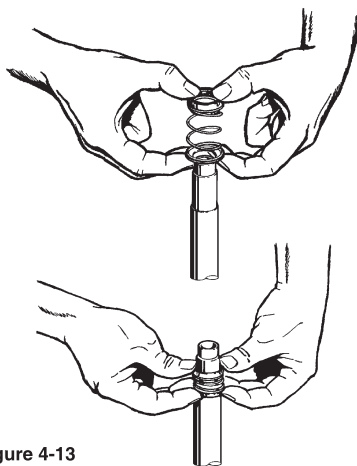

Figure 4-13
- b. Thread two (2) Guide Rods (#18) into the top holes of the motor face. (Use four (4) guide rods on stainless steel models).
- d. Install two (2) "O" Rings on each of the (top) two guide rods. This will help hold the bracket in place during the remainder of the assembly operation.
- d. Holding the element between the thumb and index finger of both hands, slide the assembly over the sleeve until the spring holder rests against the shoulder of the sleeve. Refer to Figure 4-13.
- d. Install one (1) "O" Ring (#8) on each of the four guide rods. This will help hold the bracket in place during the remainder of the assembly operation.
- b. Holding the element assembly between the thumb and index finger of both hands, slide the assembly over the shaft until the spring holder rests against the shoulder. Refer to Figure 4-13.